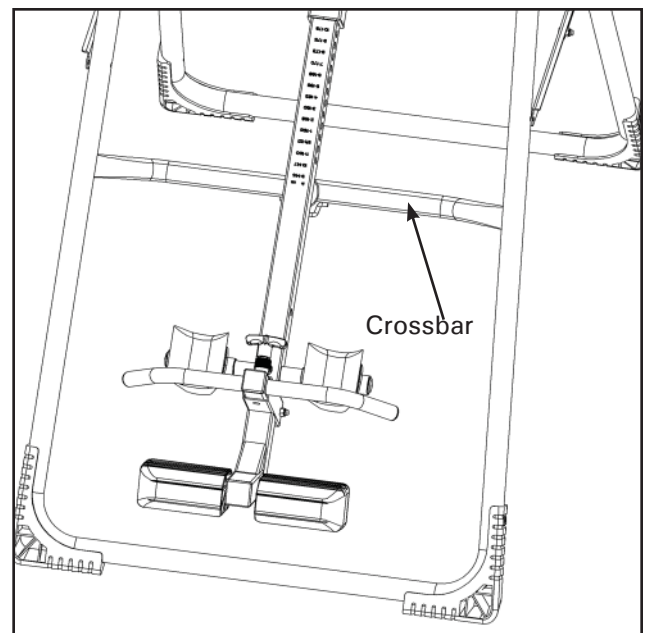

Figure 11
- The Main Shaft must rest against the Crossbar of the A-frame (Figure 11). The Crossbar prevents the table from rotating forward when the user steps on the Foot Platform. If the Main Shaft does not rest on the Crossbar as shown in Figure 11 then the Table Bed has been assembled backwards onto the A-frame and this must be corrected before use.